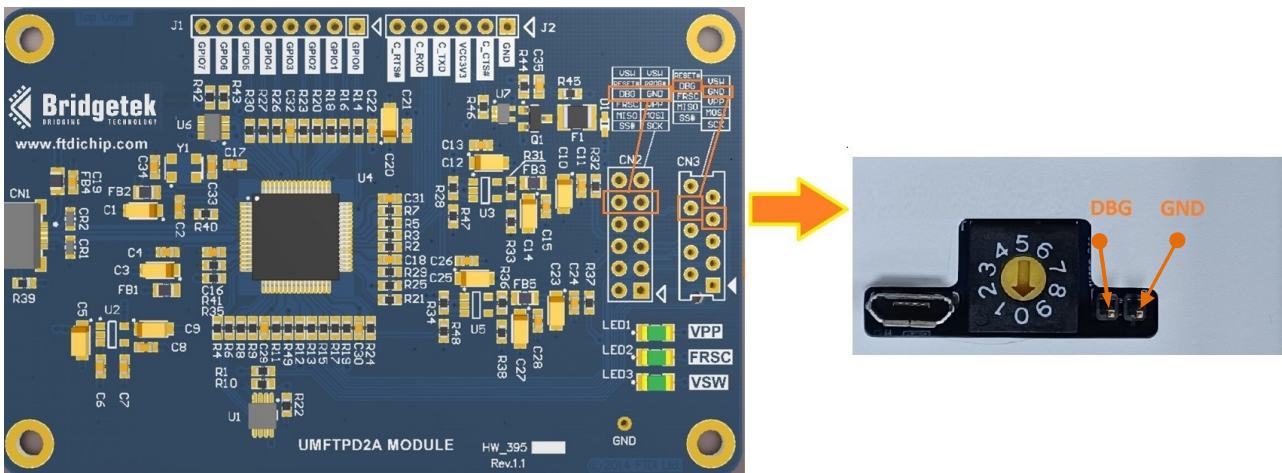

Figure 40 - One-Wire Debug Mode Hardware Connection
- Attach it to an Arlington LV2* bracket with the provided self-tapping screws (3.5mm x 16mm, minimum length 12mm), refer to Figure 40.
To establish the hardware connection, simply connect the **DBG** (CN2/CN3-8) and **GND** (CN2/CN3-7) pins from UMFTPD2A to the **One-Wire Debug** header pins of IDP-7010-04A display module, as shown in Figure 40.